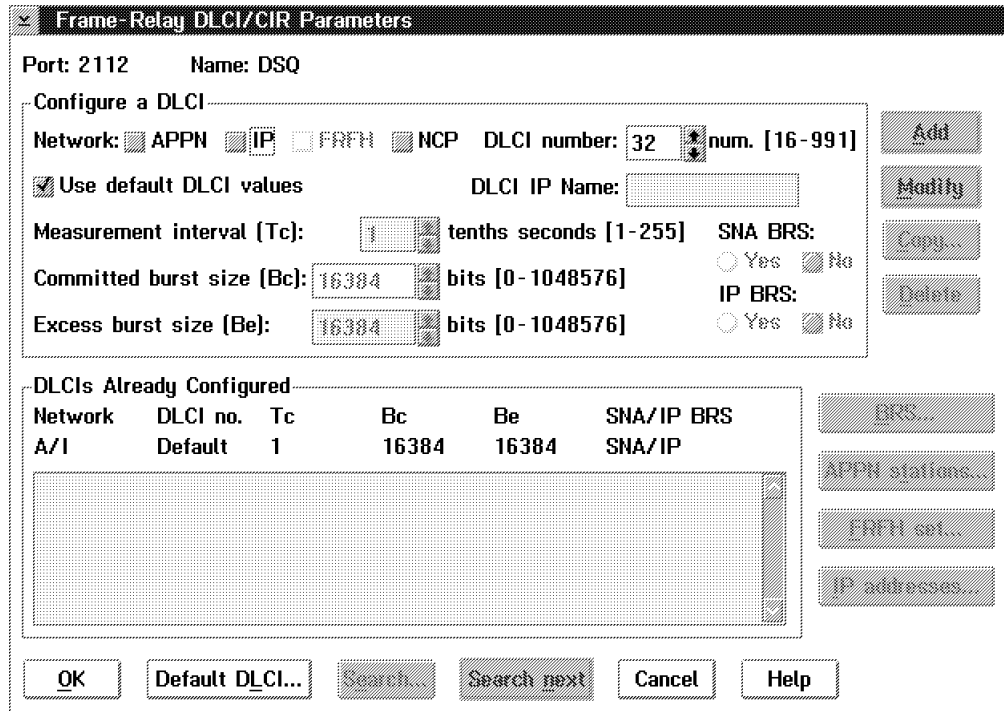

Figure 8-5. Frame-Relay DLCI/CIR Parameters Window
- Step 14.** In the **Frame-Relay DLCI/CIR Parameters** window (see Figure 8-5), for each DLCI you need keep the default values or modify these values according to your needs and click on **Add**.